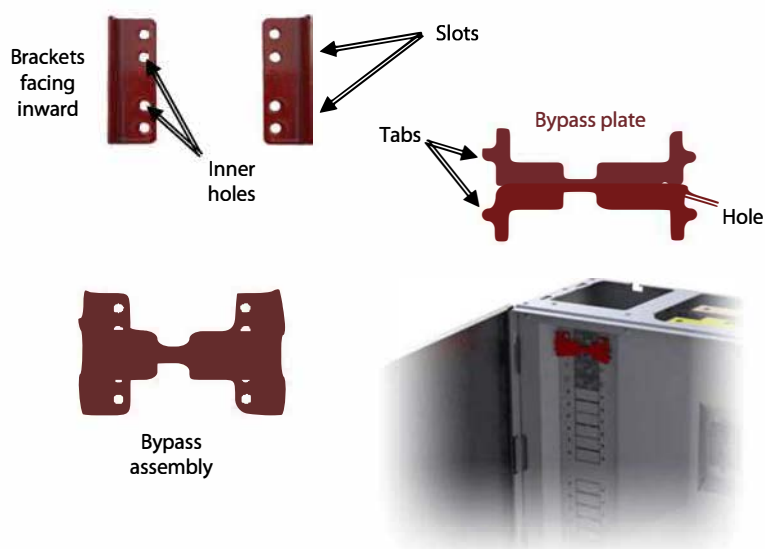

Figure 4 Installing Mechanical Bypass
2. Place the red bypass brackets over the screw holes for the top two circuit breaker poles. Face the brackets inward as shown in Figure 4. Align the inner holes on the brackets with those on the circuit breakers.